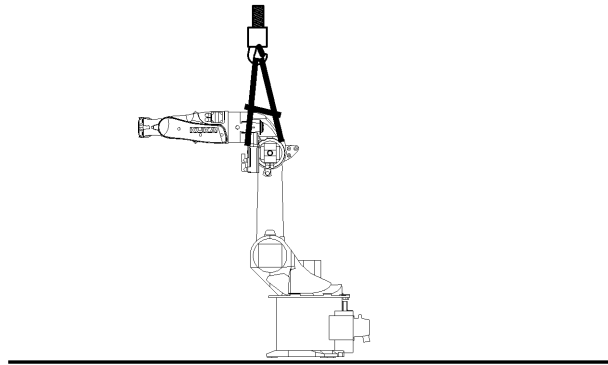

Fig. 11-2: Securing the link arm (schematic)
- The link arm is secured (>>> Fig. 11-2).
7. Remove elements securing the link arm (>>> Fig. 11-2).